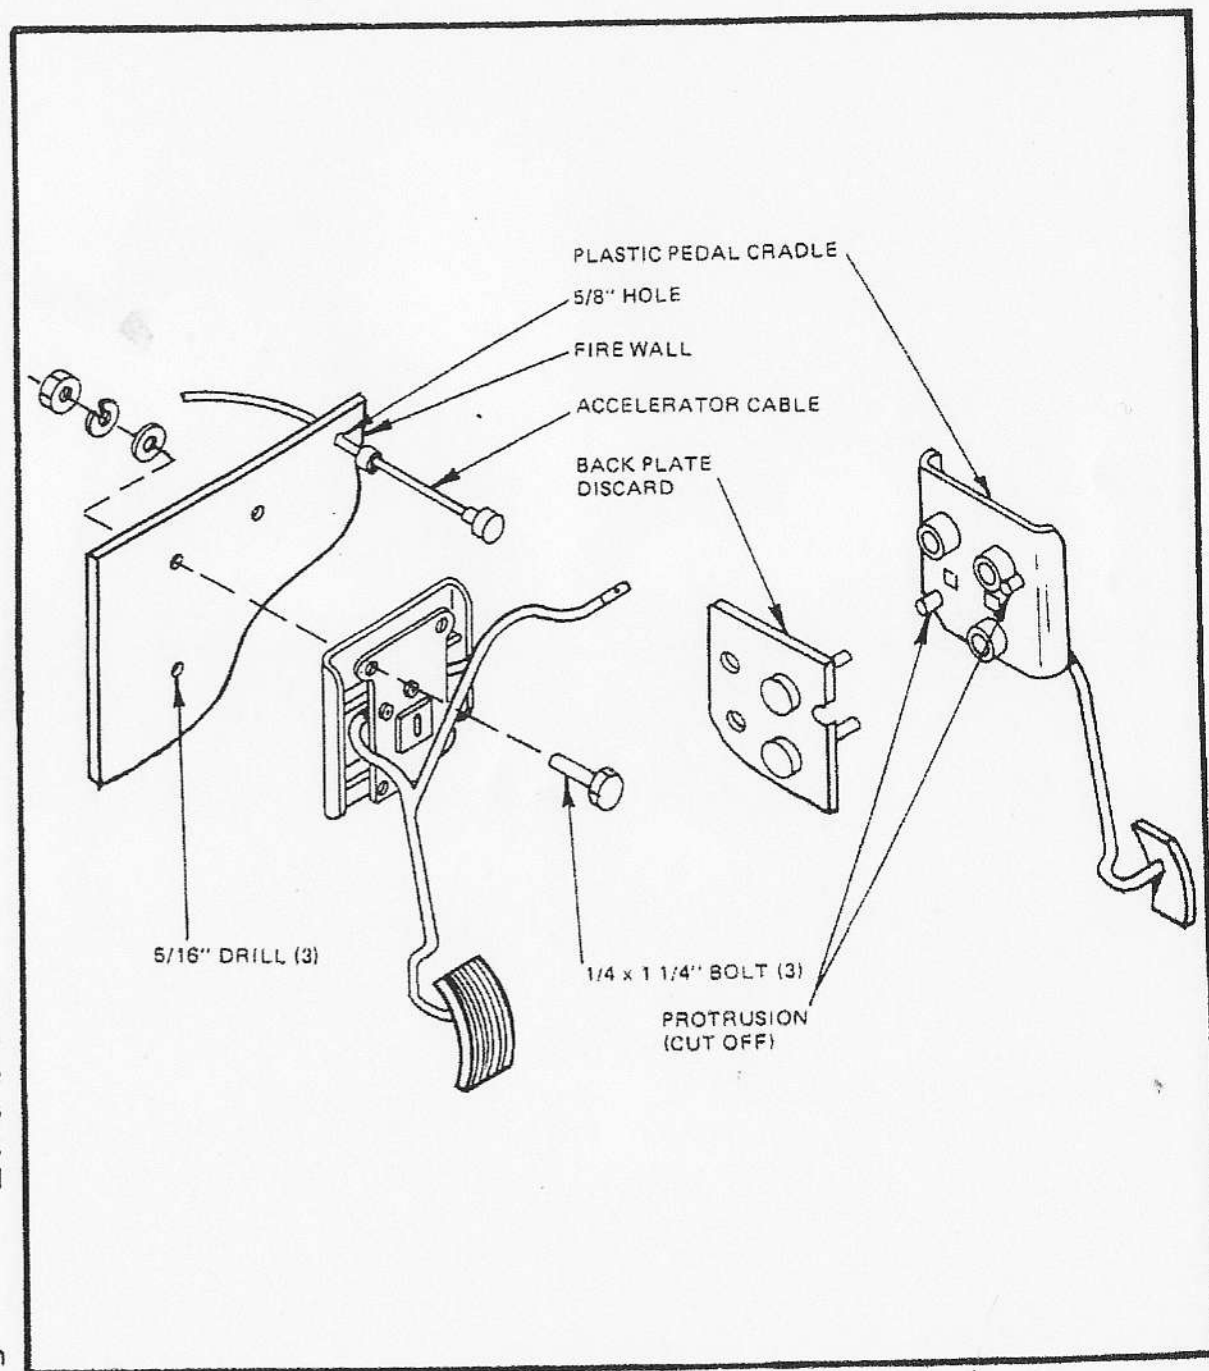

Figure 39
- ☐ Trim and drill cowls as per Figure 39. Carefully align cowls with body, matching rear of cowls with forward edge of body. Adjust height of cowls until top edge of cowl aligns with mold seam on body.